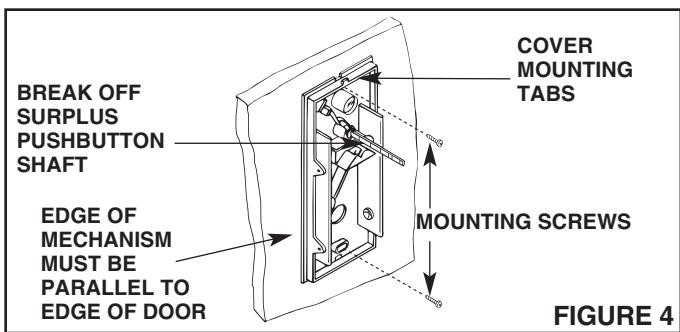

FIGURE 4
- Refer to Figure 4. Position the baseplate mechanism over the pushbutton shaft and viewer. Align baseplate parallel with the edge of the door and insert the top and bottom mounting screws provided. Tighten screws securely.
Refer to Figures 4 and 5.